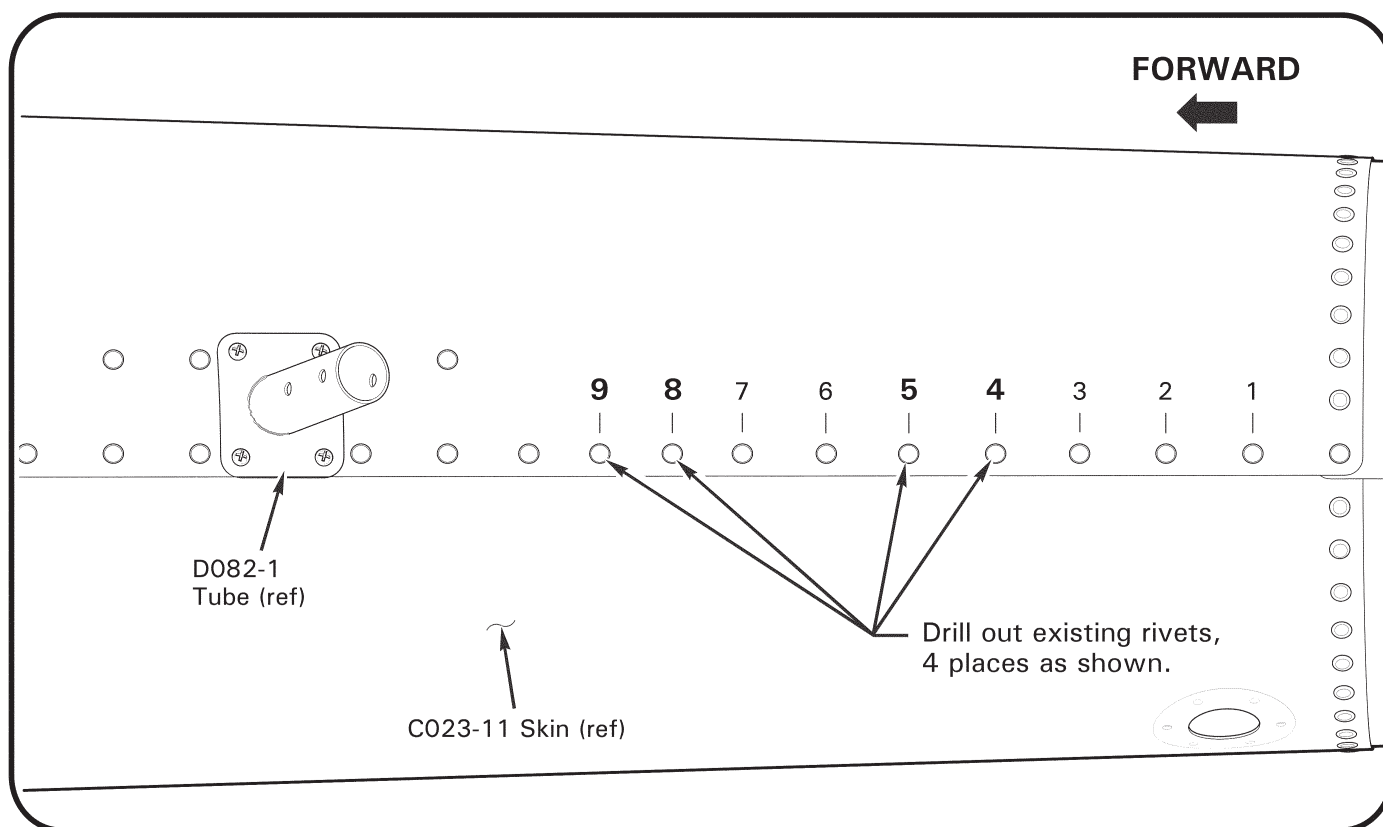

FIGURE 1 Locate & remove tailcone rivets
4. Refer to Figure 1. Locate four specified rivets (4th, 5th, 8th, and 9th), counting from first rivet as shown. Drill out specified rivets using #30 drill fitted with drill stop.